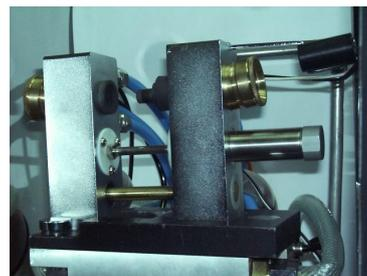

Figure 2-29
8. Pull open the left part of the graphite furnace with hand,put into graphite tube, position graphite tube with keeper and close the left furnace (Figure 2-29)